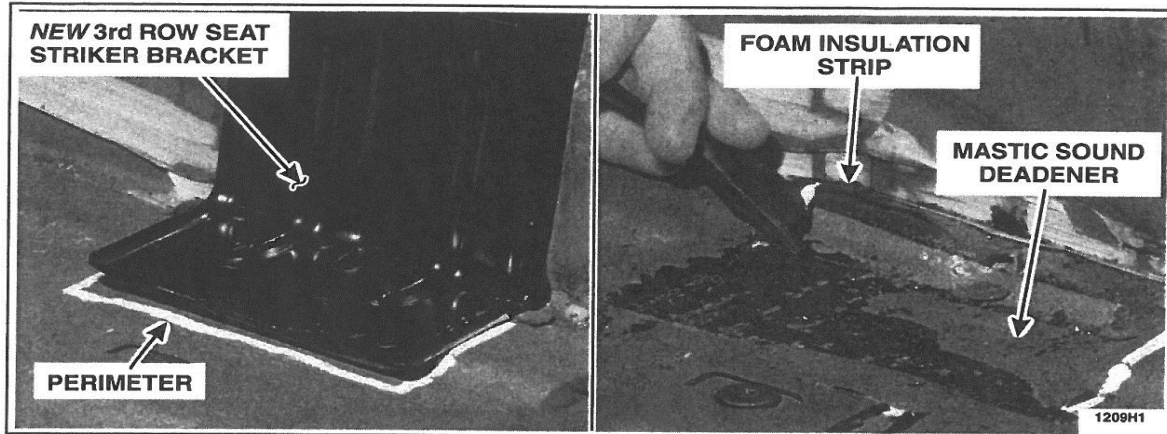

FIGURE 7
15. By using the contour of the original wheel well panel and the location of the original 3rd row seat striker studs as a guide, place the *new* RH and LH 3rd row seat striker brackets into their approximate positions on each side of the vehicle. Scribe the perimeter of the brackets on floor. See Figure 7.
16. Use a suitable chisel or gasket remover to remove the mastic sound deadener and foam insulation strip from the floor, in the areas where the *new* RH and LH 3rd row seat striker brackets will attach to the floor. See Figure 7.